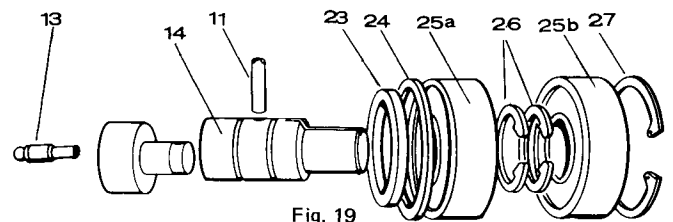
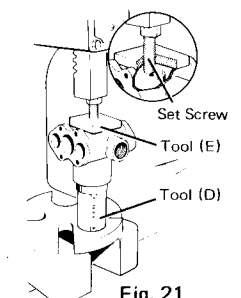

Fig. 19
Fig. 21
1. Push **BEARING SHIELD** (Fig. 19/Ref. 23) on shaft.
2. Place **INNER MAIN BEARING** (Fig. 19/Ref. 25a) on shaft as far as it will go by hand.
3. Place bearing tool (D) on bed of press with end marked "B" up. Place shaft in tool and press bearing onto shaft just past the inner retainer ring groove.
4. Install both **RETAINER RINGS** (Fig. 19/Ref. 26) on shaft, using tool (C).
6. Apply light film of grease to inside of main bearing housing... insert nylon **SPACER** (Fig. 19/Ref. 24). Place pump body—face down—in press, position shaft with bearing assembly in pump body.
7. Place tool (D) with end marked "A" **DOWN** over shaft (resting on outer race of bearing). Press down on tool (D) until outer race presses against nylon spacer.
8. Place tool (D) on bed of press with end marked "B" up.
9. Place **SECOND MAIN BEARING** (Fig. 19/Ref. 25b) on shaft as far as it will go by hand. Then place pump on tool (D)—shaft down.
10. Place tool (E) on pump. Adjust set screw so it **JUST TOUCHES** the face of Cam Bearing (Fig. 21).
11. Bring arbor press bar down against set screw on tool (E) and press second main bearing into position against retainer ring.
12. Install **RETAINER RING** (Fig. 19/Ref. 27) with pliers (C).
- Be sure pump shaft (Fig. 19/Ref. 14) is free of burrs and is completely smooth. Insert into tool (P) over cam bearing stud, and rotate until it drops into position over stud. Push down on shaft.